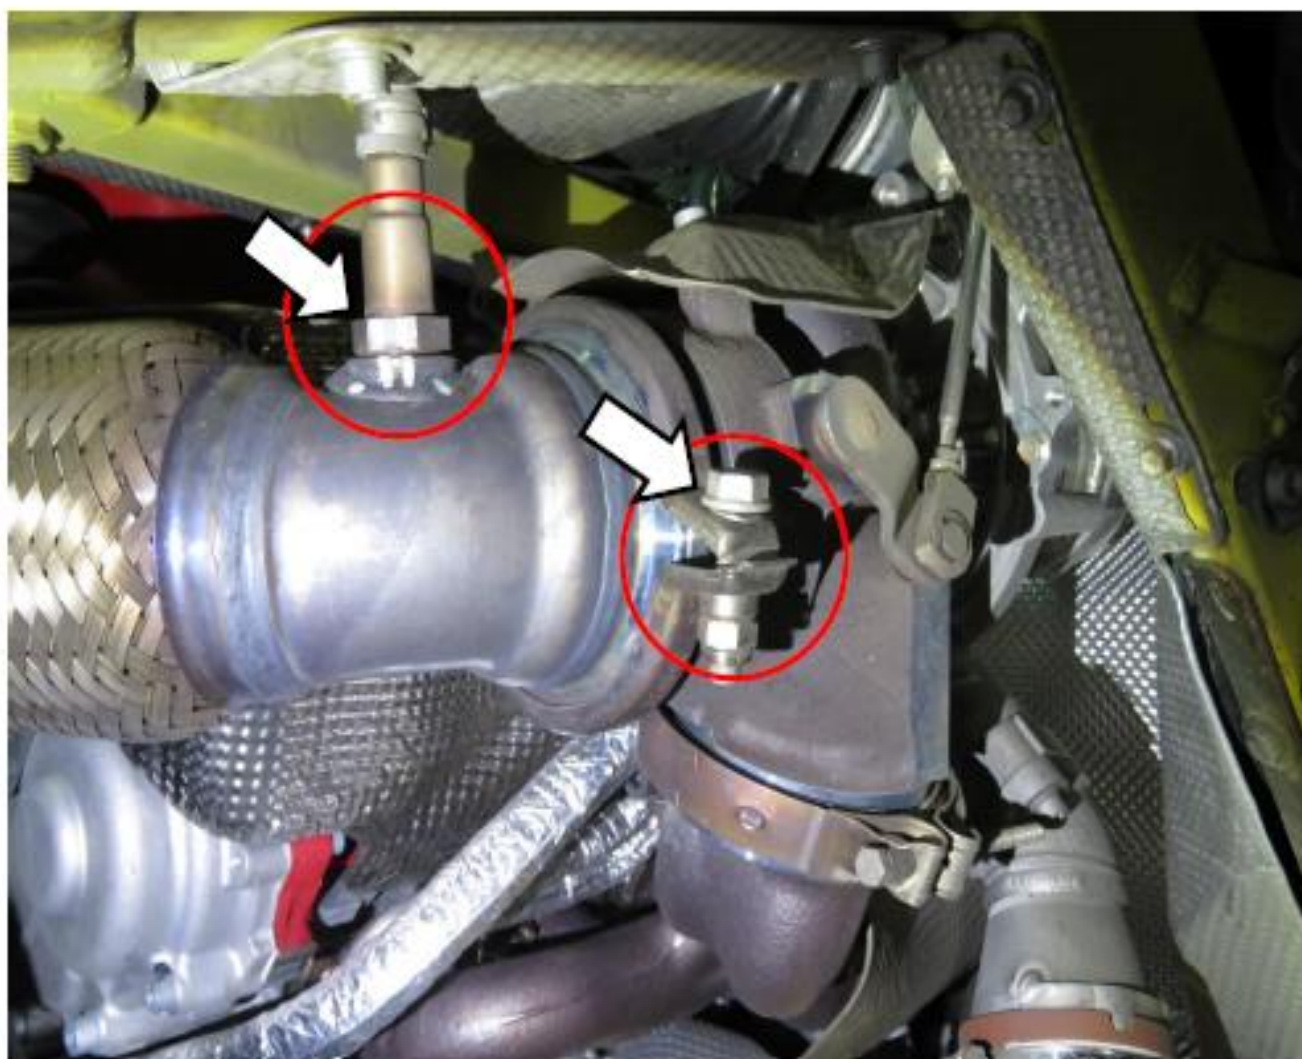

figure 14
8. Unscrew the oxygen sensor on both sides of the engine and remove the inlet ring of the catalyst section (Figure 14)